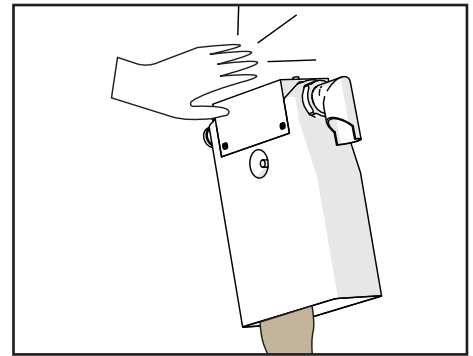

Figure 54.
1. Empty the product canisters (see Figure 54).